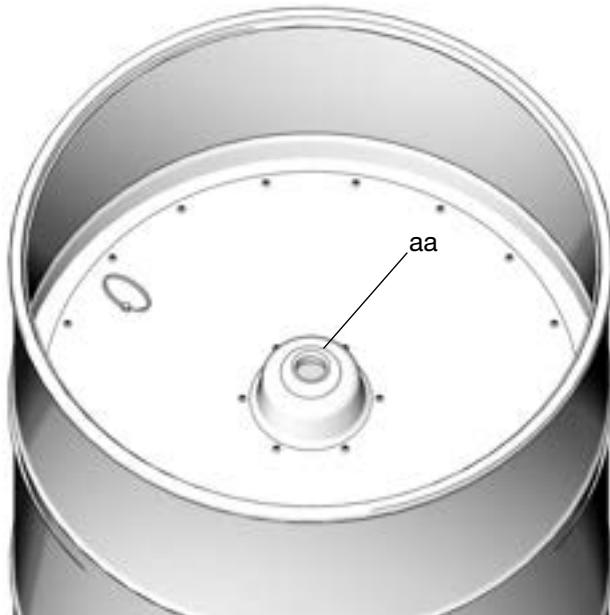

FIG. 27
6. Set follow plate (15) on top of the fresh grease (FIG. 27).
7. Remove the air by pushing down on the follow plate until the grease level is flush with the opening in the middle of the follow plate (aa) (FIG. 27).